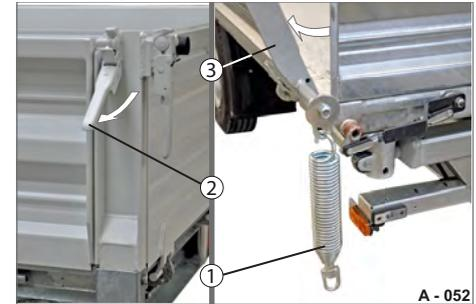

Fig. 32 Platform gate lifting spring released
- ▶ Open the upper locks (Fig. 32/2) on both sides of the side platform gate.
- ▶ Fold down the platform gate (Fig. 32/3) in pairs.